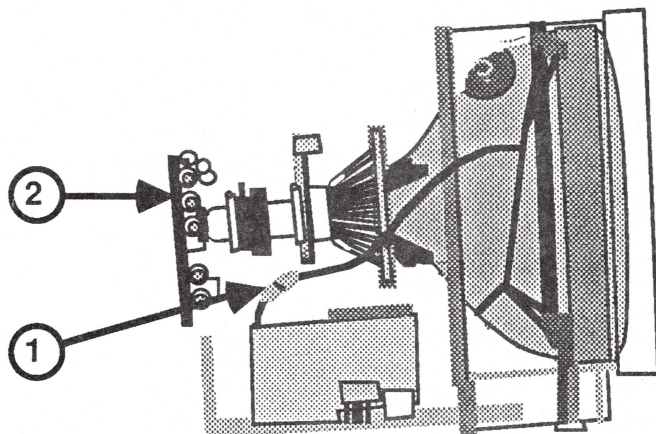

FIGURE 27
14. Reconnect the white CRT ground strap at its plug-in connector (Figure 27, #1).
16. Reconnect the CRT socket board to the CRT neck (Figure 27, #2). It fits only one way.